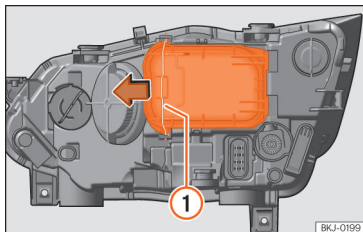

Fig. 53 In the engine compartment: remove the cover.
- Move the loop »» Fig. 53 ① in the direction of the arrow and remove the cover.